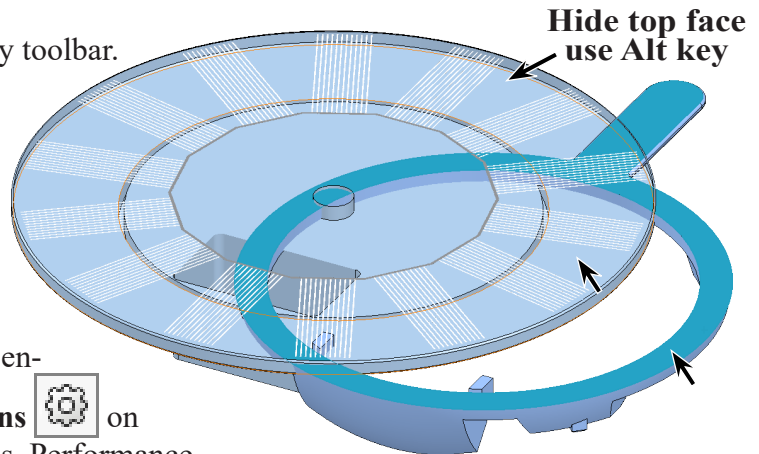

Fig. 3
Step 2. Click the **top face of the Deck**, **hide top face of Solar Panel** and click **bottom face of Solar Panel** **Fig. 3**. To hide face, hover cursor over face and press **Alt** key.